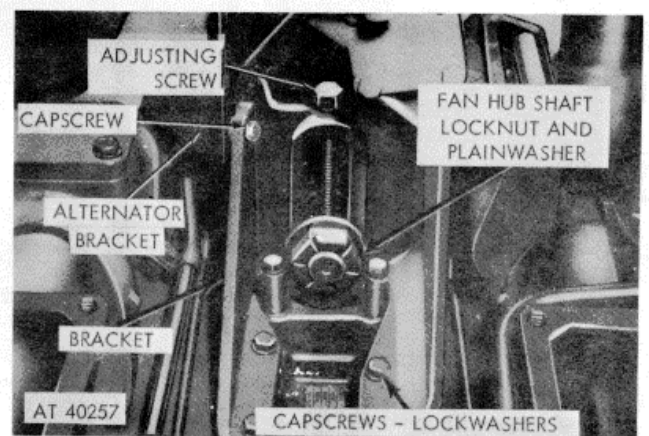

Figure 2-4. Fan hub and bracket assembly--removal/installation.
- (5) Remove pump assembly mounting bracket.
- e. Fan, Fan Hub, and Bracket Assembly (fig. 2-4).
- (1) Loosen fan hub shaft and back-off adjusting screw to relieve belt tension.
- (2) Remove belts from crankshaft pulley.
- (3) Remove shaft locknut and washer.
- (4) Pull fan and hub assembly forward to remove from bracket. Remove washer from shaft.
- (5) Remove six capscrews and lockwashers securing bracket to engine block.
- (6) Remove two capscrews and lockwashers securing bracket to alternator and hydraulic pump brackets and remove bracket.